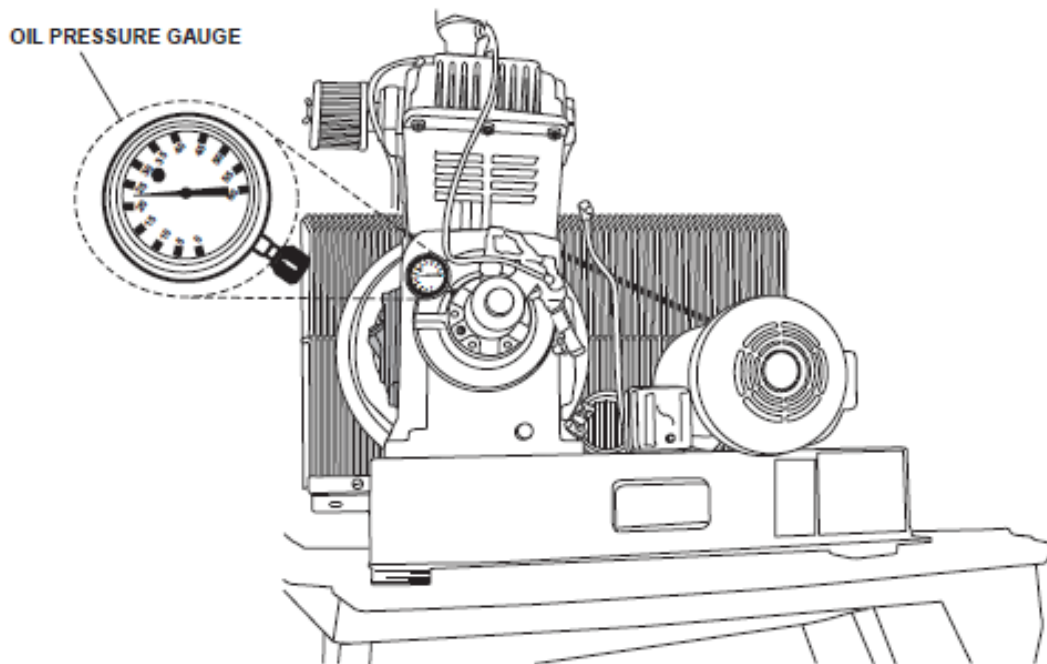

Figure 551-88L-2045_02
(1) Check for any unusual noise or vibration.
(2) Check compressor oil pressure when hot, (refer to Figure 551-88L-2045_02).